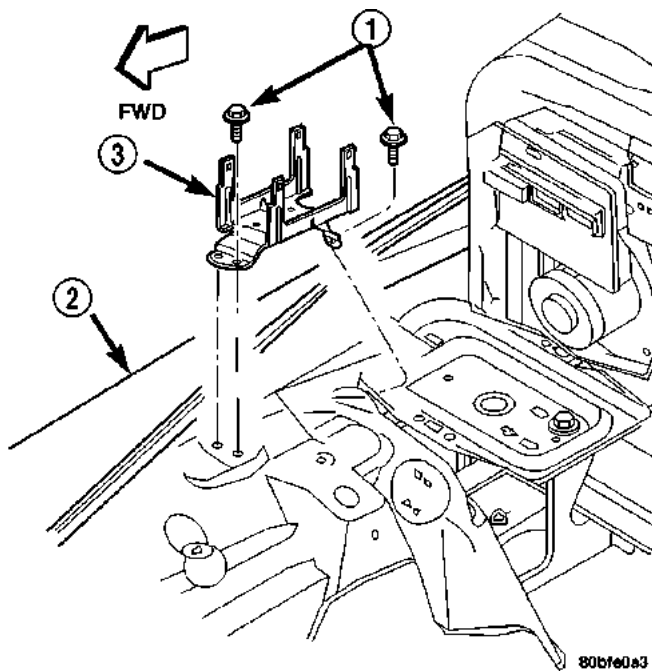

Fig. 16 PDC Bracket
(1) Disconnect and isolate the battery negative cable.
(2) Remove the Power Distribution Center (PDC) from the PDC bracket (Refer to 8 - ELECTRICAL/POWER DISTRIBUTION/POWER DISTRIBUTION CENTER - REMOVAL).
(3) Remove the three screws that secure the PDC bracket to the right front inner fender (Fig. 16).